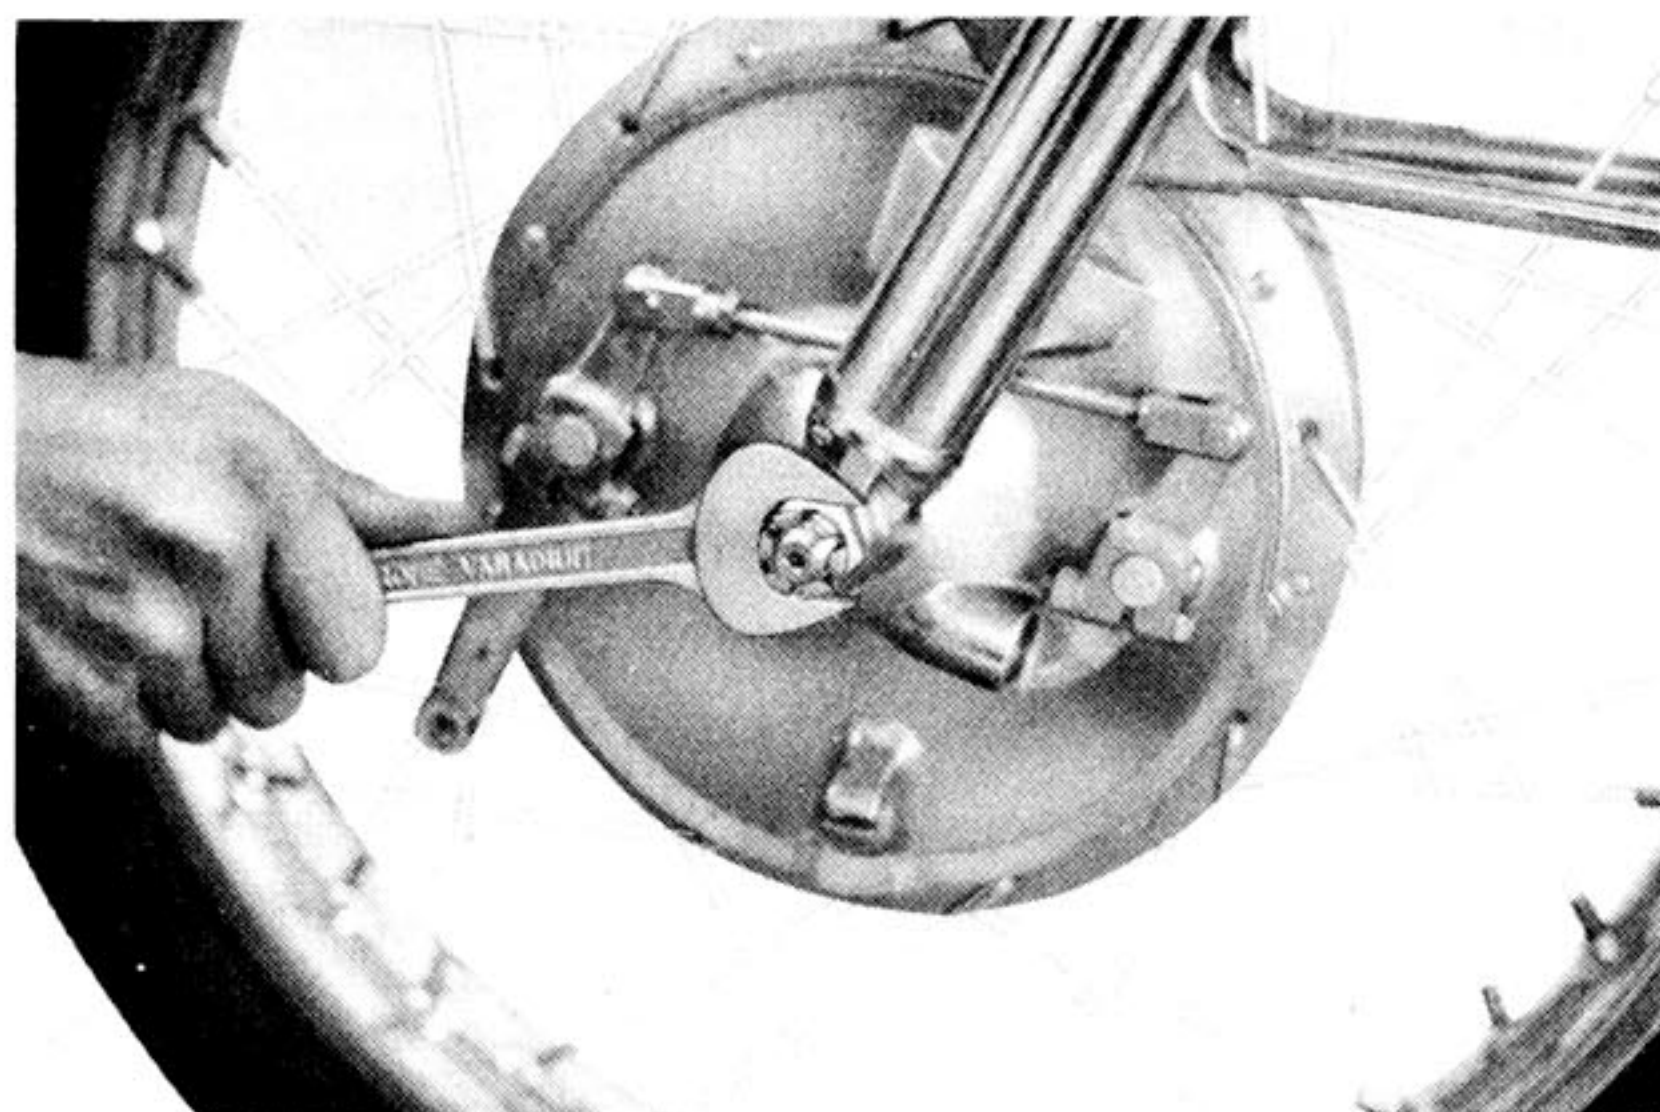

Fig. 5-1-3
(2) Remove the cotter pin and front wheel shaft nut. (Fig. 5-1-3)